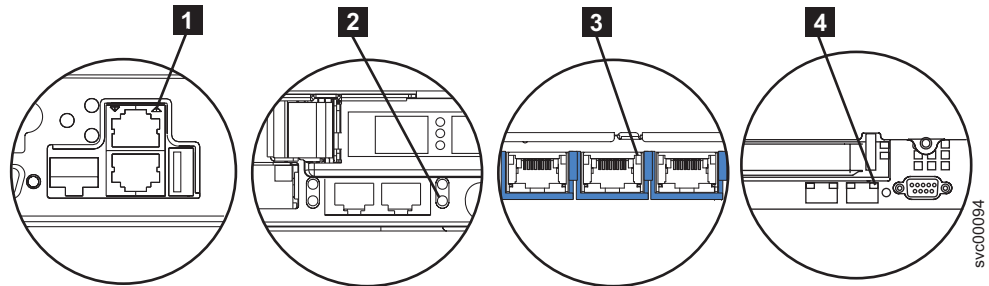

Figure 87. Port 2 Ethernet link LED on the SAN Volume Controller rear panel
**Is the green LED on the Ethernet port assembly illuminated?** Figure 87 shows the location of the port 2 Ethernet link LED.
**Is the green link LED on port 2 Ethernet illuminated?** Figure 87 shows the location of the link LED.